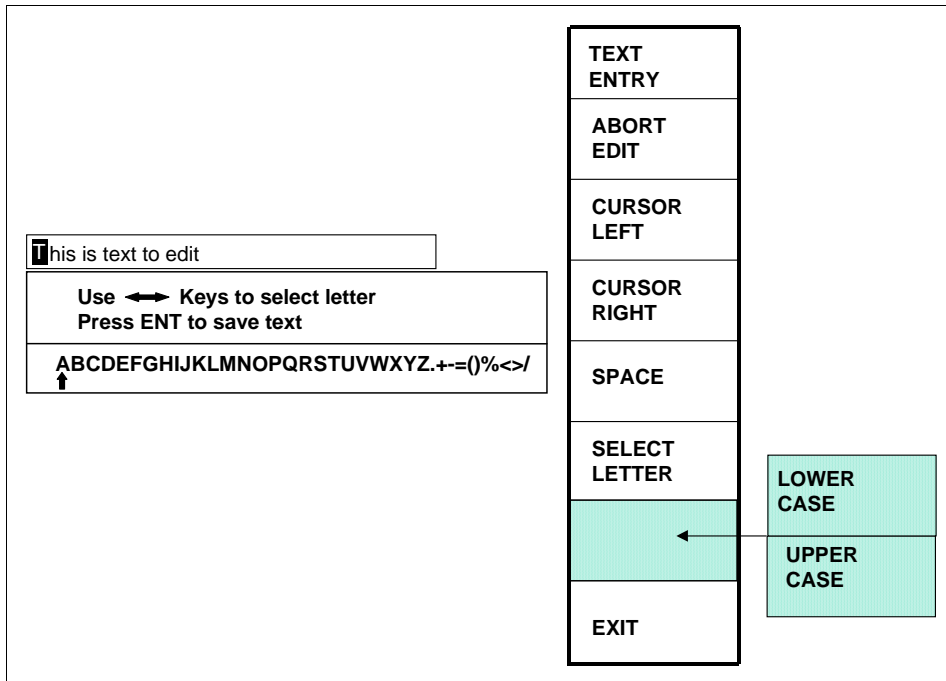

Figure 2.1: Example Text Entry
- b) The topmost softkey will usually say something along the lines of “CHANGE XXXXXX” where XXXXXX is the name of the value to be changed. It may also simply say “CHANGE TEXT” or “CHANGE DESC.” In any case, hit this softkey to enter text entry mode. The right-hand softkeys will change, a letter selection box will appear, and the editing cursor will change to a rectangle around the text to be edited. Figure 2.1 shows the softkeys and an example text parameter.